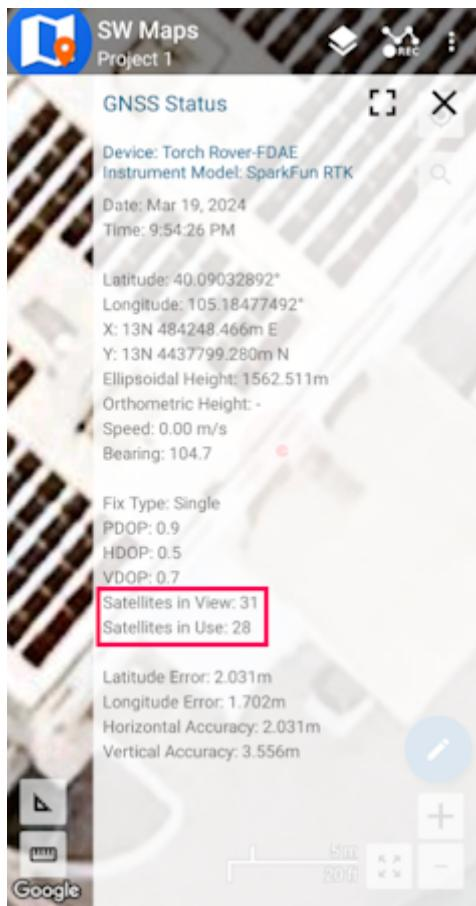

Figure 5
8. Now put the device outside with a clear view of the sky. GNSS doesn't work indoors or near windows. Press the SW Maps icon in the top left corner of the home screen and select **GNSS Status**. Within about 30 seconds you should see 10 or more satellites in view (SIV) (Figure 5). More SIV is better. We regularly see 30 or more SIV. The horizontal positional accuracy (HPA) will start at around 10 meters and begin to decrease. The lower the HPA the more accurate your position. This accuracy is around 2m in normal mode.